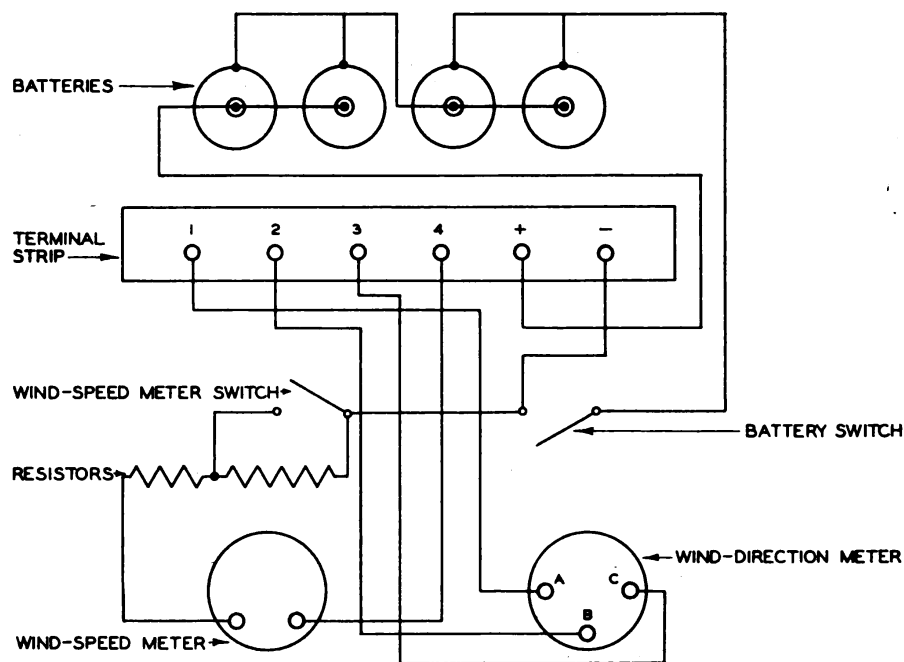

Figure 9. Wind Panel ML-204-A or ML-204-B, wiring diagram.
(1) Open the hinged front panel by twisting  $\frac{1}{4}$ -turn (counterclockwise) the small wing clamp in each upper corner. Do not let the panel drop down. Lower it gently.
(2) Insert the three pairs of wires from the mast into the box through either of the side holes (fig. 4). Connect the wires to the terminals (fig. 9).